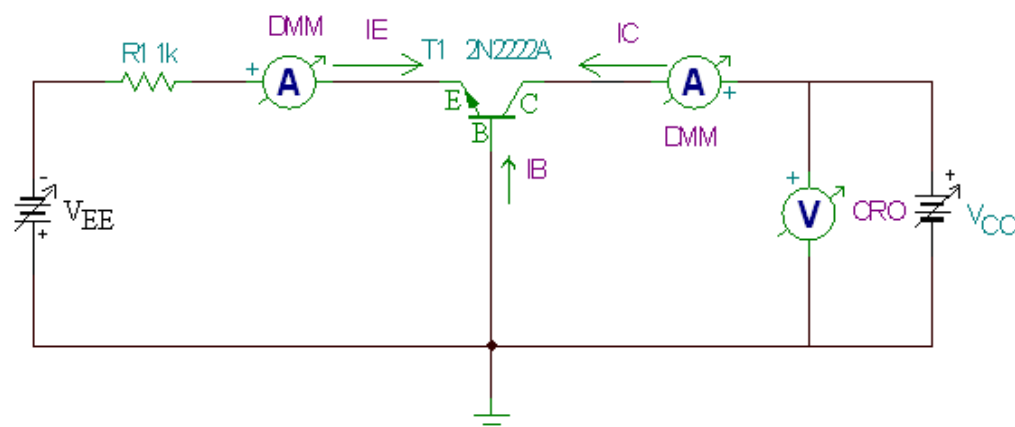

Fig 5.2 Circuit for Common Base Output Characteristics
8. Connect the circuit in fig 5.2